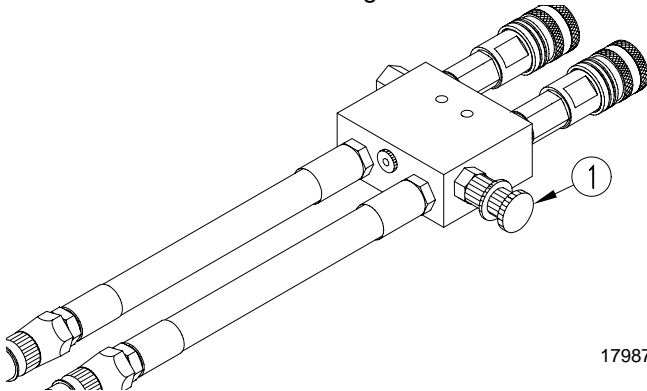

Figure 2-1
1. Close bypass valve for no oil flow by turning knob (1) on valve clockwise. See Figure 2-1.